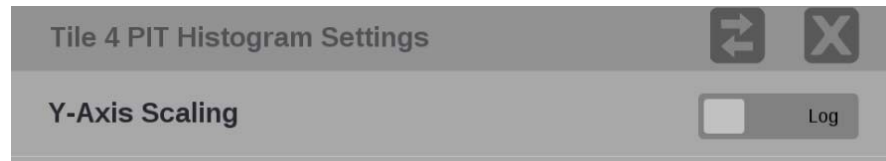

Figure 158: PIT Histogram application settings menu
**Y-Axis Scaling.** Use this option to switch the y-axis scaling between **Log** and **Linear**. (See Figure 158.)